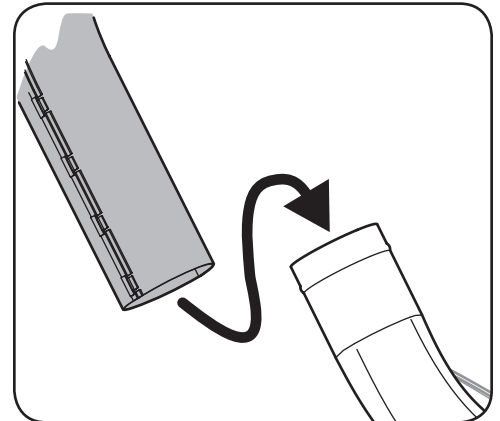

Figure 4-18
3. With the ability now to wiggle the discharge chute tube back and forth, slide it over the chute elbow mounted on the cutting deck, as shown in Figure 4-18.